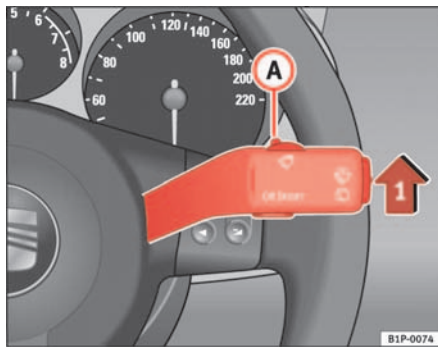

Fig. 88 Windscreen wiper lever
- Move the windscreen wiper lever into position **1** ⇒ fig. 88